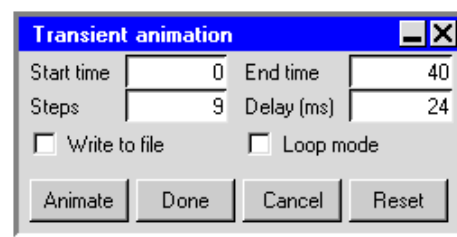

Figure 20.3.4: The Transient animation Panel
3. Click **Animate** to open the Transient animation panel (Figure 20.3.4).